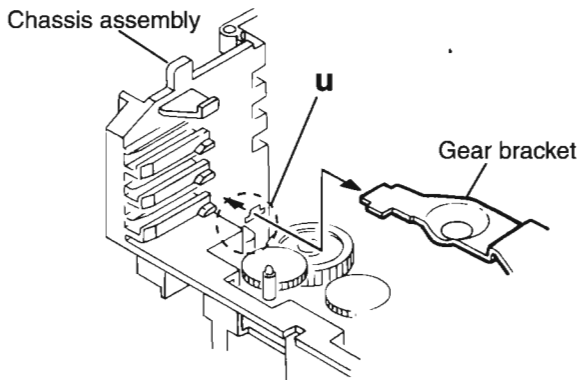

Fig.19
1. Remove the two screws **K** retaining the gear bracket (See Fig.19).
2. While pressing the pawl "t" fixing the gear bracket in the arrow direction, remove the gear bracket (See Fig.19).
4. Remove the belts respectively from the right and left actuator motor pulleys and pulley gears(See Fig. 19).